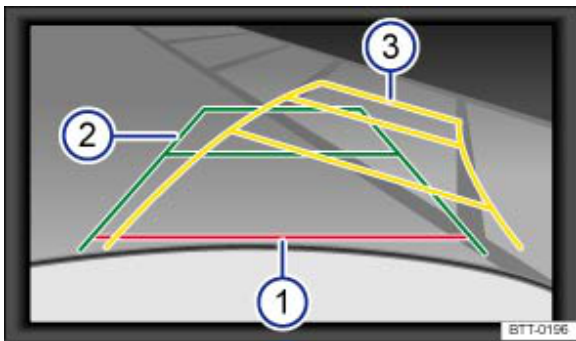

Fig. 162 On the screen: orientation lines for the parking space behind the vehicle
Meaning of the orientation lines on the screen → Fig. 162. All distances of the orientation lines refer to a vehicle on a horizontal surface.
- Reverse slowly and steer the vehicle so that the yellow orientation lines lead into the parking space → Fig. 162 **③**.